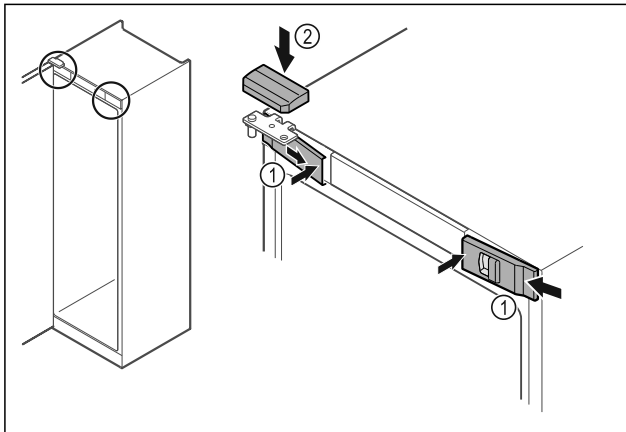

Fig. 48 \*
- ▶ Hook in the front covers Fig. 48 (1) on the side and snap them into place on the inside.\*
- ▶ Snap on the top cover Fig. 48 (2) from above.\*